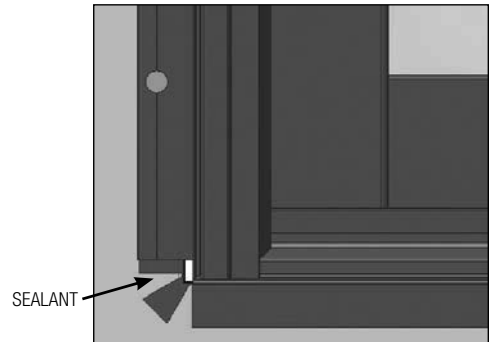

FIG. 14
- A) **IMPORTANT:** Below the nailing fin at both bottom corners, apply a generous amount of silicone to seal the void between the rough opening and the sill. If the gap is too large, insert backer material in the void prior to sealing. (Fig. 14)